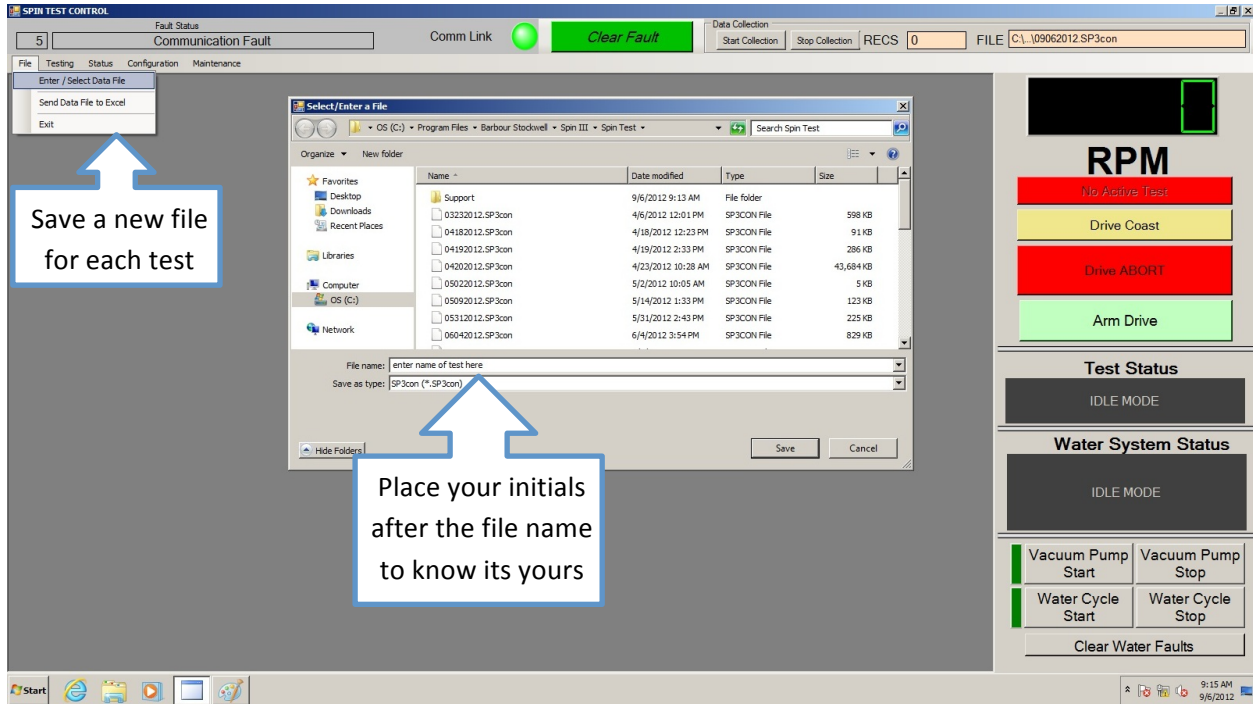

Figure 9: Setup data file
- 1.2. Go to **File** → **Enter/Select Data File** → **File Name** (name the test and place your initials to distinguish each researcher) see figure 9.